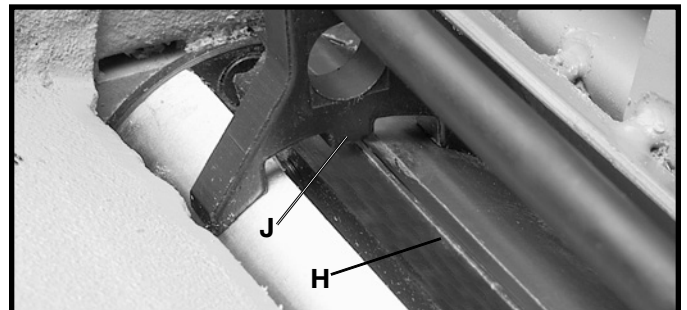
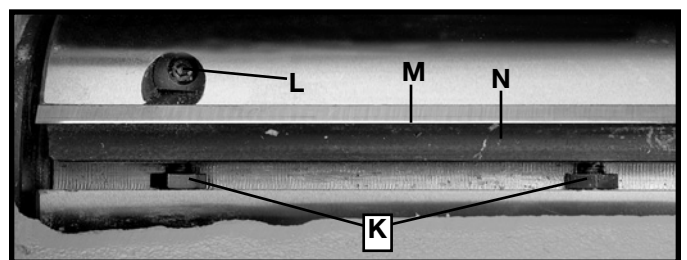

Fig. 36
Fig. 37
B. When the knives are adjusted correctly, the knife (H) Fig. 36, should just contact the bottom of the gage (J), at each end of the gage. Check the remaining two knives in the same manner.
C. To adjust the knife that must be reset, loosen all five locking screws, two of which are shown at (K) Fig. 37, by turning them clockwise into the lock bar. Then using the wrench supplied, turn allen screw (L) Fig. 37, counterclockwise to lower or clockwise to raise the knife on each end of the cutterhead until the cutting edge of knife (H) Fig. 36, just touches the bottom of the gage (J). Then snug up the knife locking bar by lightly backing out the five locking screws, two of which are shown at (K) Fig. 37, against the knife slot. **IMPORTANT: AT THIS TIME, ONLY TIGHTEN THE KNIFE INTO THE SLOT ENOUGH TO HOLD IT IN POSITION.**
E. After all three knives are set, back out and tighten the five locking screws, two of which are shown at (K) Fig. 37, against the slot, starting with the end screws first, then the center screws until the knife is securely held in the cutterhead. Tighten the remaining two knives in the same manner.
A. Remove the knife (M) Fig. 37, locking bar (N), and locking screws (K) from the cutterhead. Repeat this process for the two remaining knives, locking bars, and locking screws.
C. Insert locking bars, knives and screws into all three slots in the cutterhead. Back out the locking screws, two of which are shown at (K) Fig. 37, just enough to hold all three knives in the cutterhead.